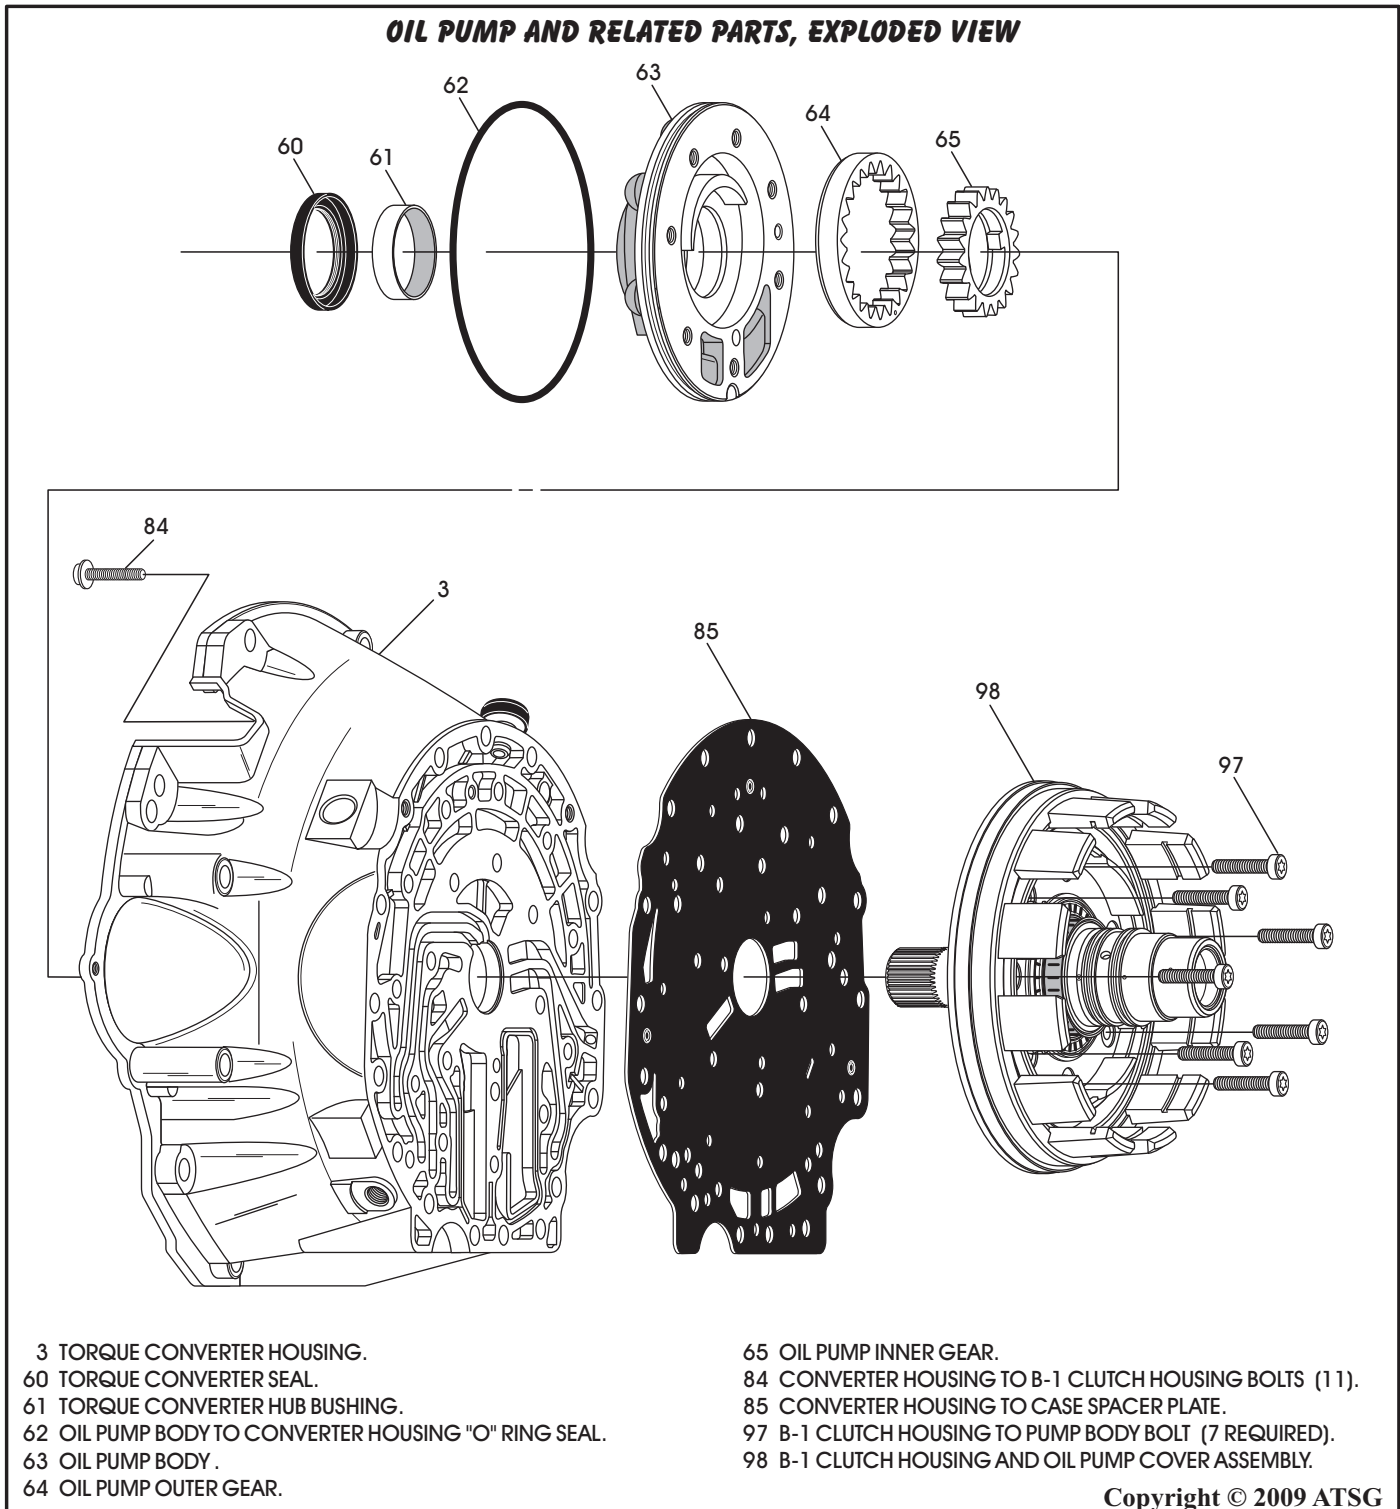

Figure 65
12. Install new oil pump bushing as necessary using the proper driver (See Figure 65).
13. Install new converter hub seal into pump body using the proper seal driver (See Figure 65).